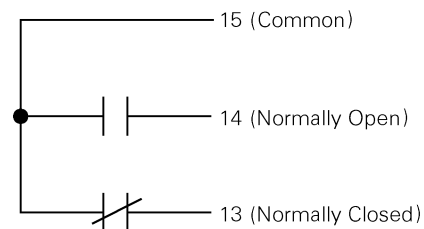

Figure 21: Bell Alarm-Alarm Only connections on the right terminal block. The contacts are shown in the reset state.
The Bell Alarm-Alarm Only provides normally open (NO) and normally closed (NC) outputs available at the terminal block on the right side of the switch, as illustrated in Figure 21. The outputs change state whenever a new HPC Switch trips open by means of the trip unit detecting a fault, either instantaneous or ground fault.